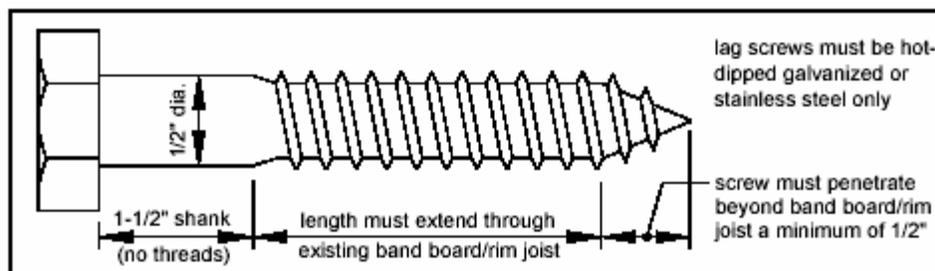

Figure 12 - Lag Screw Requirements
**Lag Screws:** Lag screws shall have a minimum diameter of  $\frac{3}{8}$ " and shall be hot-dipped galvanized or stainless steel. Lag screws may be used only when the field conditions match those shown in Figure 12. **You must verify the existing conditions in the field prior to applying for a building permit and installing lag screws. Compliance with all the requirements herein is critical to ensure the structural stability of your deck.** See Figure 12 for lag screw length and shank requirements. All lag screws shall be installed with washers. Lag screws are those where a pilot hole is drilled into the wood members that are to be connected together and the lag is screwed into the hole, a washer is required on the lag head, but no nut and washer is needed on the screw end.